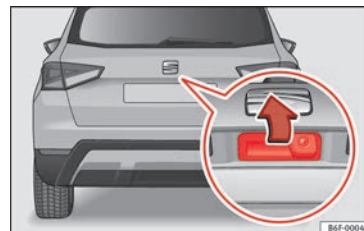

Fig. 6 Rear lid: handle
The rear lid opening system operates electrically*. It is activated by exerting slight pressure on the handle » **Fig. 6**.
- Opening the rear lid: exert slight pressure on the handle » **Fig. 6**. The rear lid opens automatically.